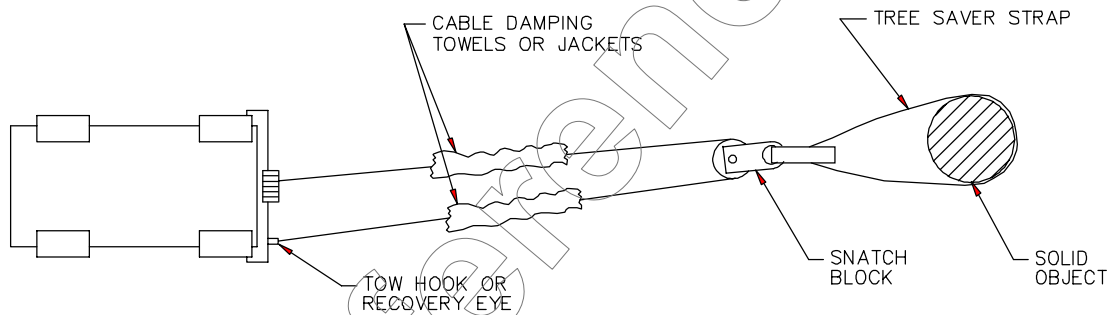

FIGURE 1
- 3) When using a snatch block, attach return line to tow hook or recovery eye (See Figure 1).